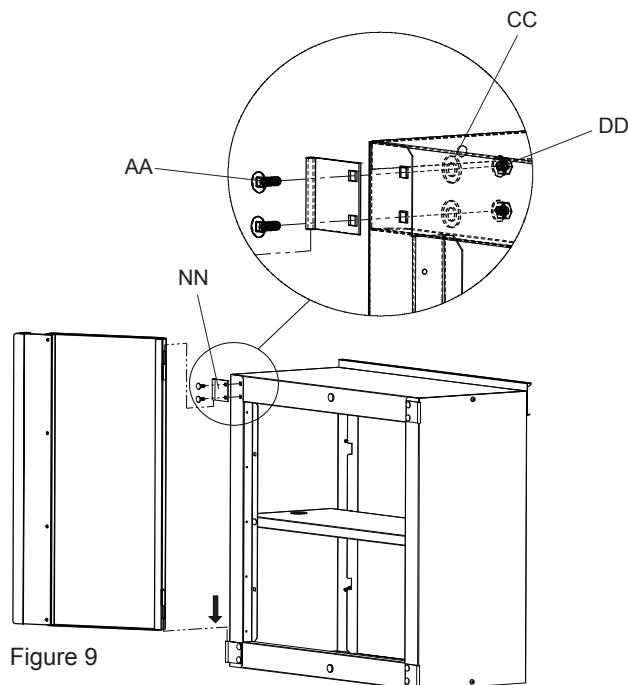

Figure 9
- Slide the left door hinge pin MM into the left lower hinge NN. (See Figure 9., lower left detail).